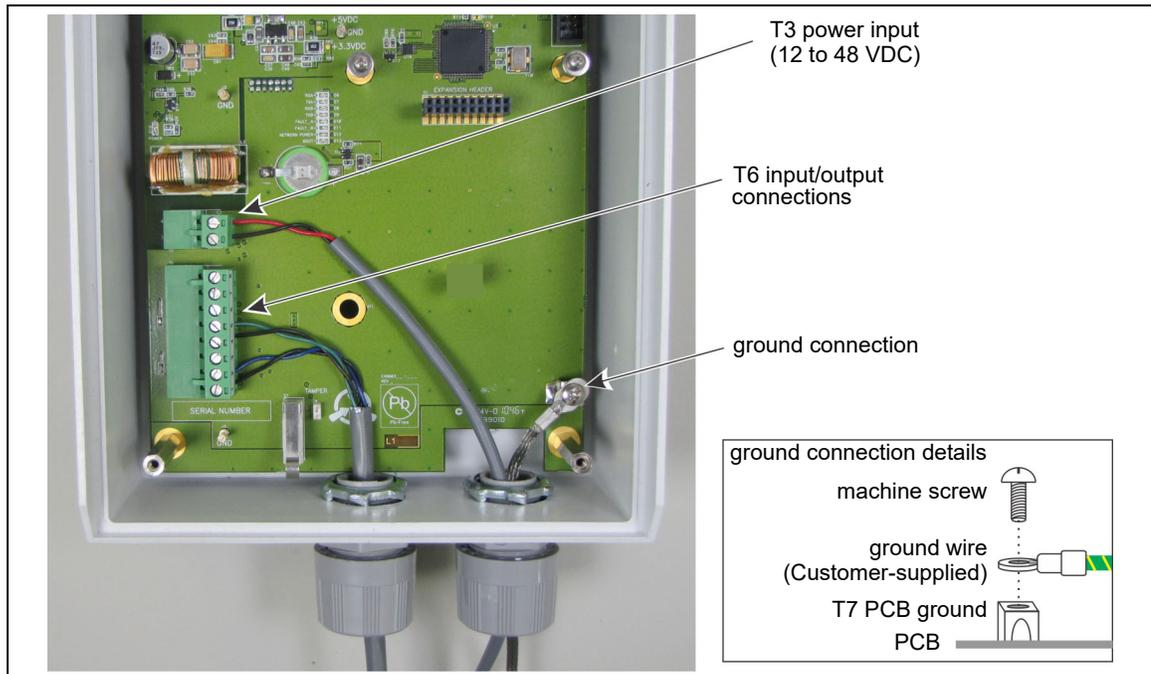
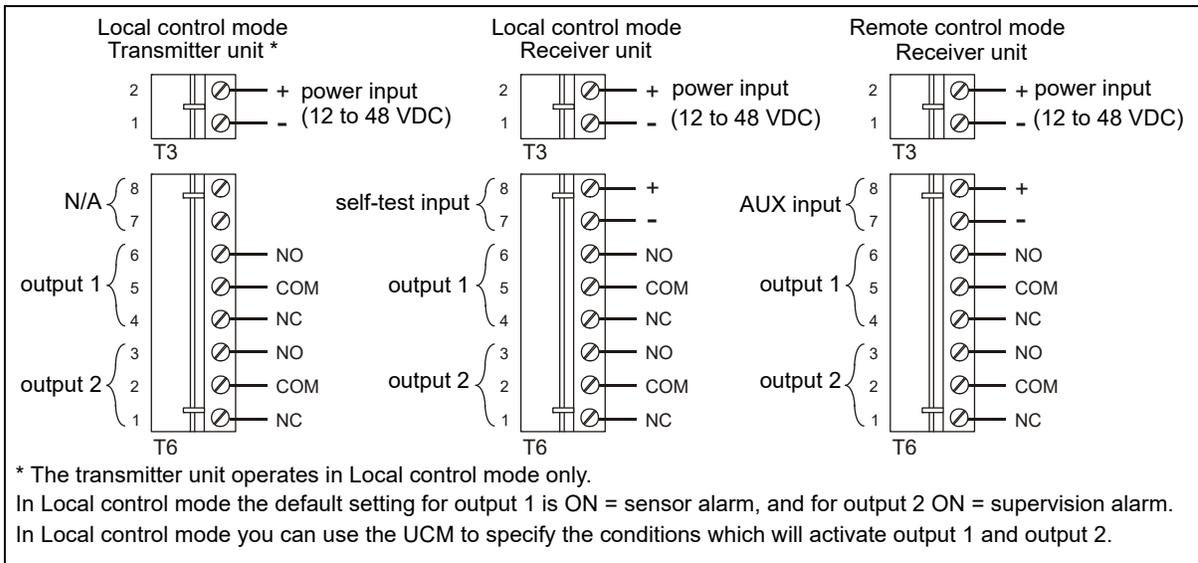

Figure 18 Relay output, power input and ground connection wiring (Rx & Tx)
Figure 19 Transmitter/receiver wiring connections
output alarm signaling). The transmitter unit does not include an input. Refer to Figure 18 for an illustration of UltraWave relay output wiring and ground connection details. Figure 19 illustrates the input output wiring connection details for both Local control mode and Remote control mode.
T6 connects to output 1, output 2 and an auxiliary (AUX) or self-test input (see Figure 19 for connection details). In Local control mode, the two outputs can be configured via the UCM to report user-specified alarm conditions (see Alarm data communications on page 11). A momentary switch input to the self-test input activates an electronic test of the receiver unit. Self-test activation
The transmitter unit operates only in Local control mode. T6 connects to output 1 and output 2 (see Figure 19 for connection details). You can use the UCM to specify the conditions that will activate the two outputs (see Alarm data communications on page 11). The transmitter unit does not include an input.
3. Remove the terminal block from T6, make the wiring connections, and then replace the terminal block (see Figure 18).
2. Connect the ground wire to the ground lug on the transmitter/receiver PCB (see Figure 18).
- At each UltraWave unit, splice the power cable to a lighter gauge pigtail that is approximately 30 cm (12 in.) long. Connect the negative lead to T3-1 (-) and connect the positive lead to T3-2 (+) (see Figure 18).
To use a local DC power supply, the power supply must be outdoor rated and installed in its own weatherproof enclosure. The local supply can be mounted on the same post as the UltraWave unit to keep the wire runs to a minimum. Connect the negative lead to T3-1 (-) and connect the positive lead to T3-2 (+) (see Figure 18).